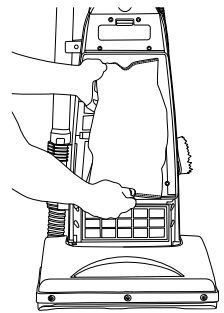

Fig. 4
2. Attach the new vacuum bag onto the bag holder (Fig. 4).